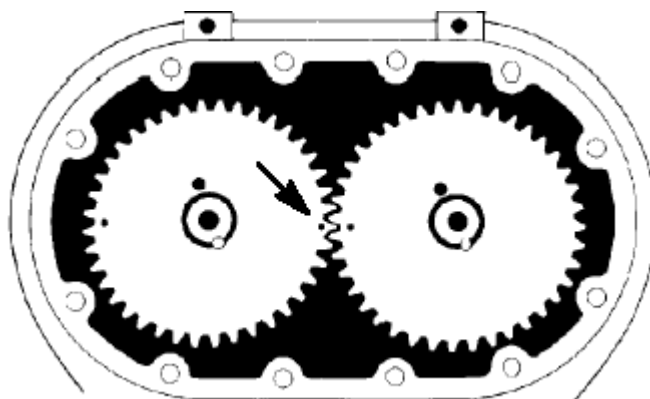

FIGURE 6-2
5. If timing gears appear to be reusable, match mark timing gear toothmesh by making small punch marks on the ends of meshing gear teeth with a pin punch and hammer (see FIGURE 6-2, page 25). The impeller tip to valley (throat) and the case to headplates should also be matchmarked to facilitate blower reassembly.